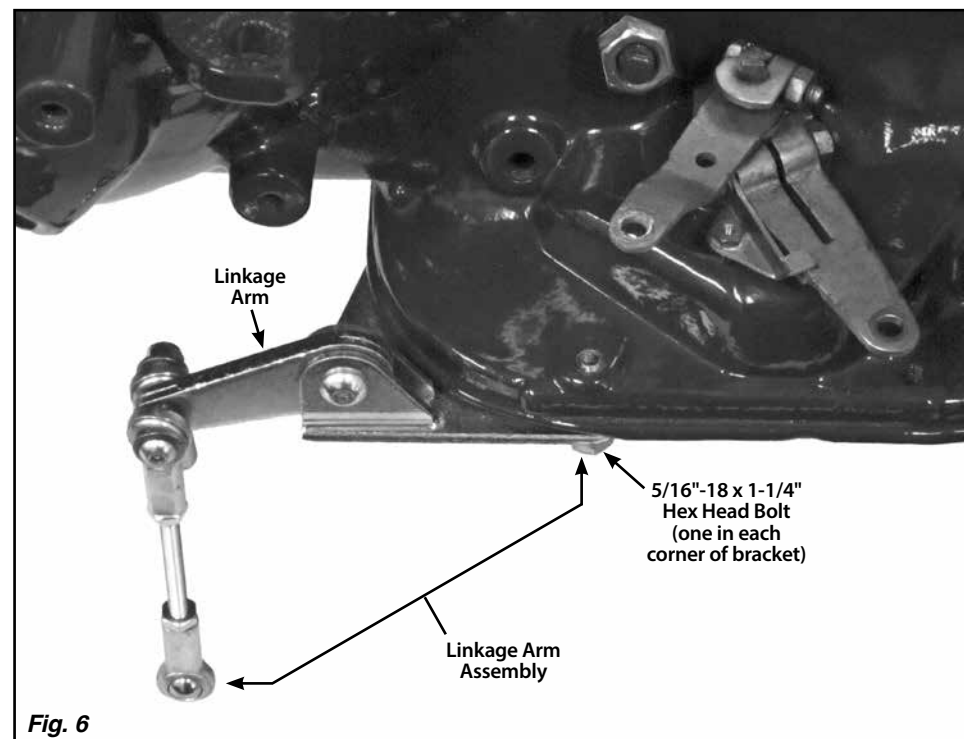

Fig. 6
Step 9: Remove the forward-most bolt from the driver side of the transmission pan, and the bolt that is the furthest to the driver side on the front of the transmission pan. Remove the masking tape from the 5/16"-18 x 1-1/4" bolts on the provided linkage arm assembly. Install the linkage arm assembly onto the underside of the front driver side corner of the transmission pan. **Fig. 6**